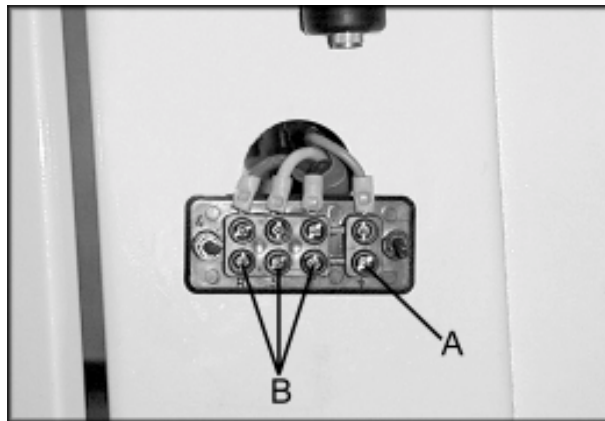

FIGURE 1
2. Remove the wiring cover and attach the ground wire (A), Figure 1.